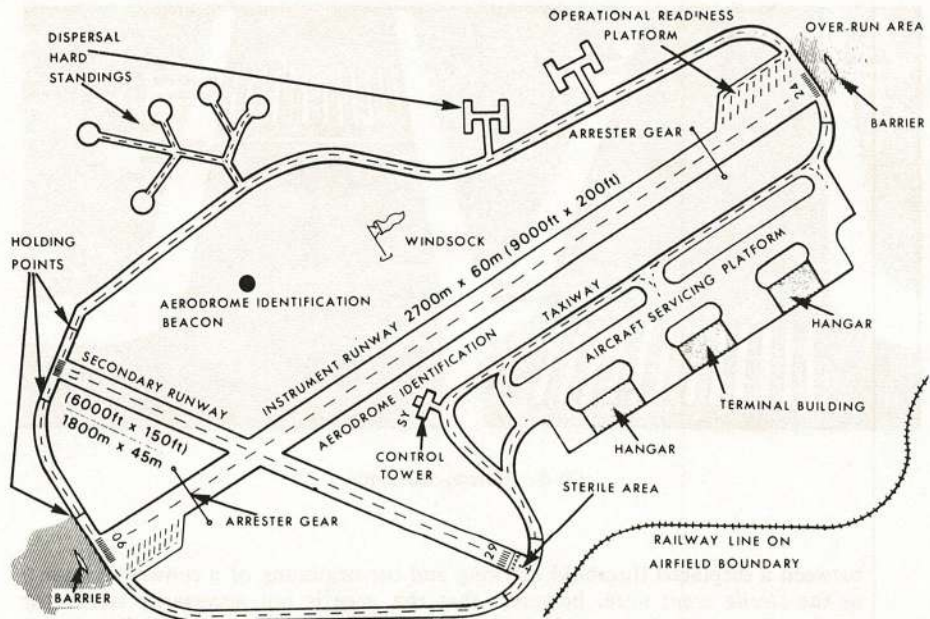
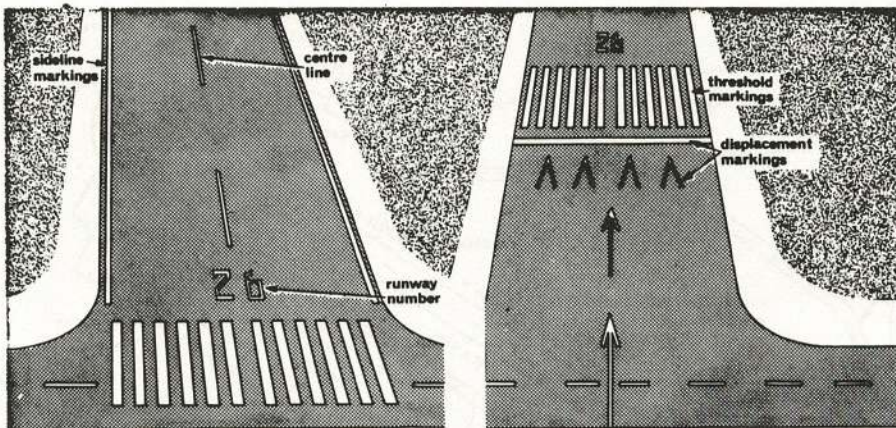

Fig 2 A Modern "Main Instrument Runway" Type Airfield
Fig 3 Runway Markings
4. To summarize, it can be said that airfields fall broadly into three types: the basic grass airfield, the triangular-patterned runway type, and the modern main instrument runway type. Fig 1 illustrates these three types, and Fig 2 shows the layout of a typical modern airfield used by heavy and/or high-speed jet aircraft.
6. **Dimensions.** Runways vary in width and length according to the role of the particular airfield. At many airfields, the main instrument runway is 150 feet (45 m) wide and 6,000 feet (1,800 m) long, subsidiary runways being of the same width but shorter. At medium bomber and strategic transport airfields, the main runway is normally 200 feet (60 m) wide and 9,000 feet (2,700 m) long (see Fig 2).
7. **Markings.** The markings on runways are illustrated in Fig 3 and described below:
b. **Runway Numbers.** Each runway is marked by two white painted numerals indicating the magnetic headings of the runway direction, taken to the nearest 10° (see Fig 2). For example:
(1) Magnetic heading 238° (M)—runway number 24.
(2) Magnetic heading 058° (M)—runway number 06.
c. **Threshold Markings.** These consist of longitudinal white stripes painted symmetrically about the runway centre-line (see Fig 3). Where the landing threshold has to be moved up the runway because of some form of obstruction in the final stages of the approach (eg the railway line in Fig 2), four chevrons and a bar are added as in Fig 3. By making the pilot land further up the runway, the aircraft will be at a safe height when it crosses the obstruction. The area
d. *Centre-Line and Side-Line Markings.* As shown in Fig 3, the runway centre is indicated by a broken white line (arrowheads in the sterile area). Where there is lack of contrast between the runway and the shoulders it is permissible to mark each side of the runway with a solid white line.
9. These are areas beyond the ends of the runways that are provided for accidental or emergency use by aircraft over-running or under-shooting the runway (see Fig 2). They are areas cleared of obstacles, having a reasonably even surface, and capable of supporting an over-running aircraft without damaging the undercarriage. Over-run areas can be augmented by *barriers* which are large strong nets made of nylon rope. They can be raised and lowered by the airfield controller but are usually kept in the raised position. If a fast jet aircraft experiences a brake failure on landing and overruns, the net will literally "catch" the aircraft, slowing it and stopping it with minimum risk of damage to the aircraft or injury to the crew. Note that, for obvious reasons, a barrier is not used for propeller-driven aircraft.